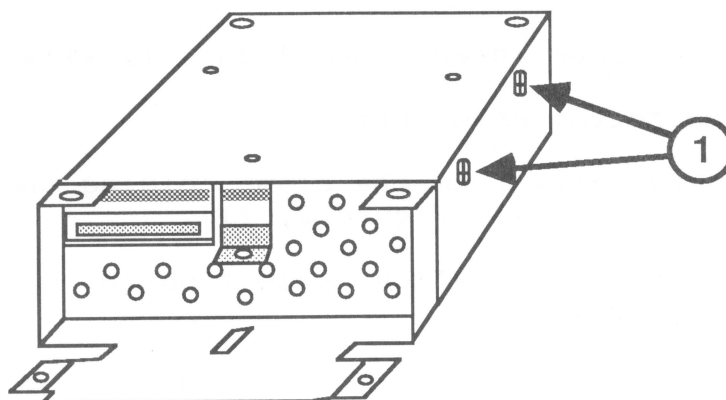

FIGURE 4
4. Remove the four screws that hold the drive assembly in the housing. There are two screws on each side. Figure 4, #1, shows one side.
2. Start the four screws that hold the drive assembly in place. After all four screws are started, tighten each one. There are two screws on each side of the housing. Figure 4, #1, shows one side.